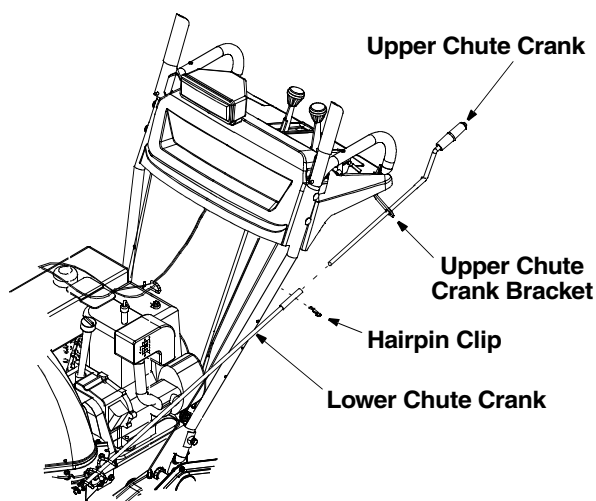

Figure 4
- Remove the hairpin clip from the upper chute crank and slide the upper chute crank through the upper chute crank bracket and into the lower chute crank. Align the two holes on both chute cranks and insert the hairpin clip removed earlier, through these holes. Refer to Figure 4.